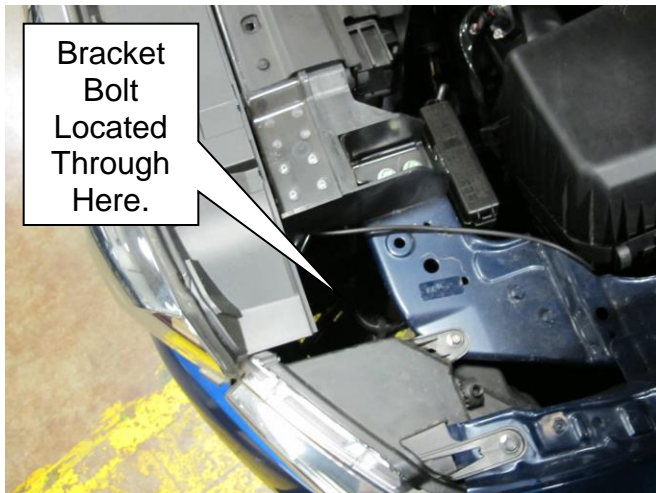

Figure 10
- Remove the power steering oil return line bracket bolt located inside the left front-end body assembly (Figure 10, 11).